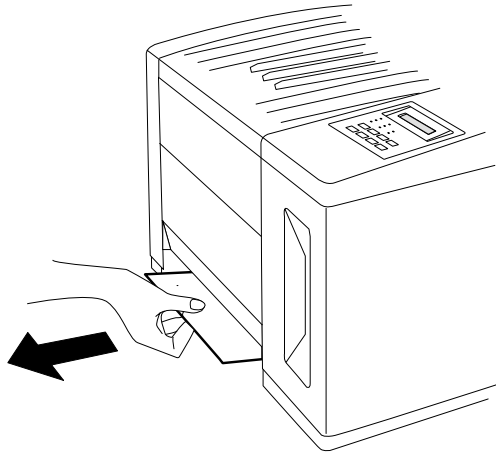

Fig. 9.3 *Remove the Jammed Media*
4. Remove any jammed media you see (fig. 9.3).